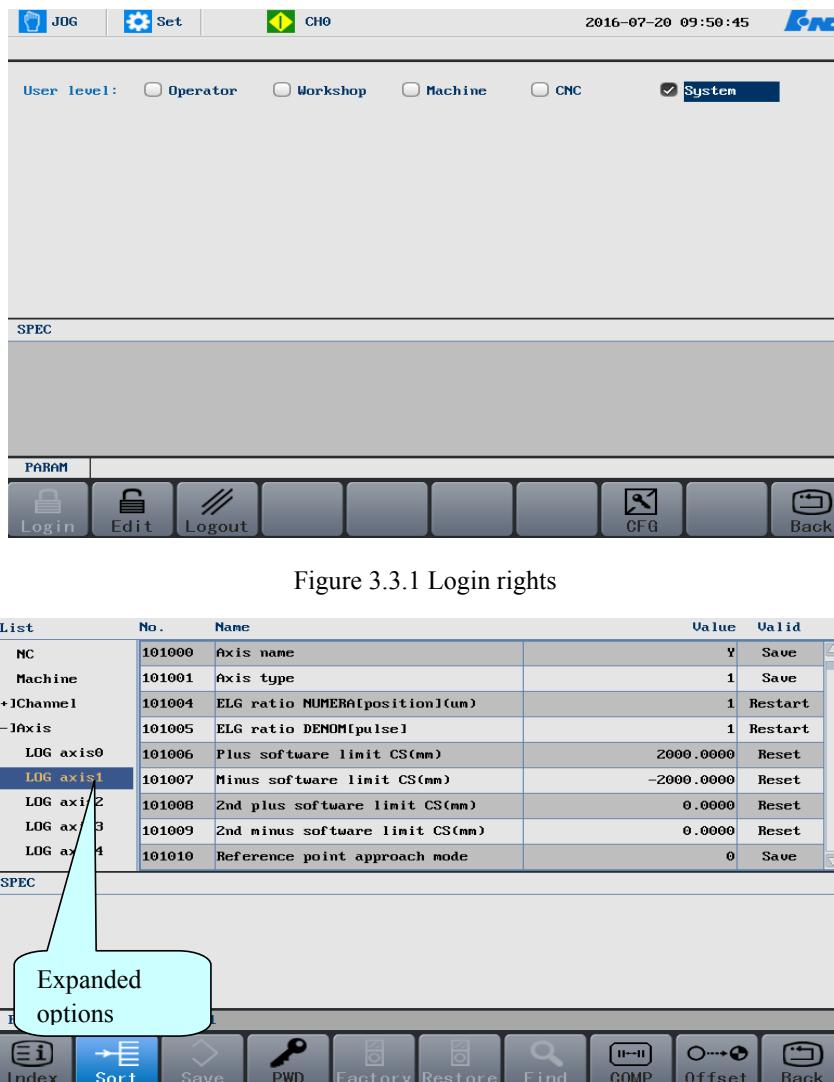

Figure 3.3.1 Login rights
2. Use "←" or "→" to select a user level, press Login, enter the correct password, and then press Enter. If the symbol "√" is displayed next to the user, the user has successfully logged in. The system provides operation instructions on the interface. See Figure 3.3.1.